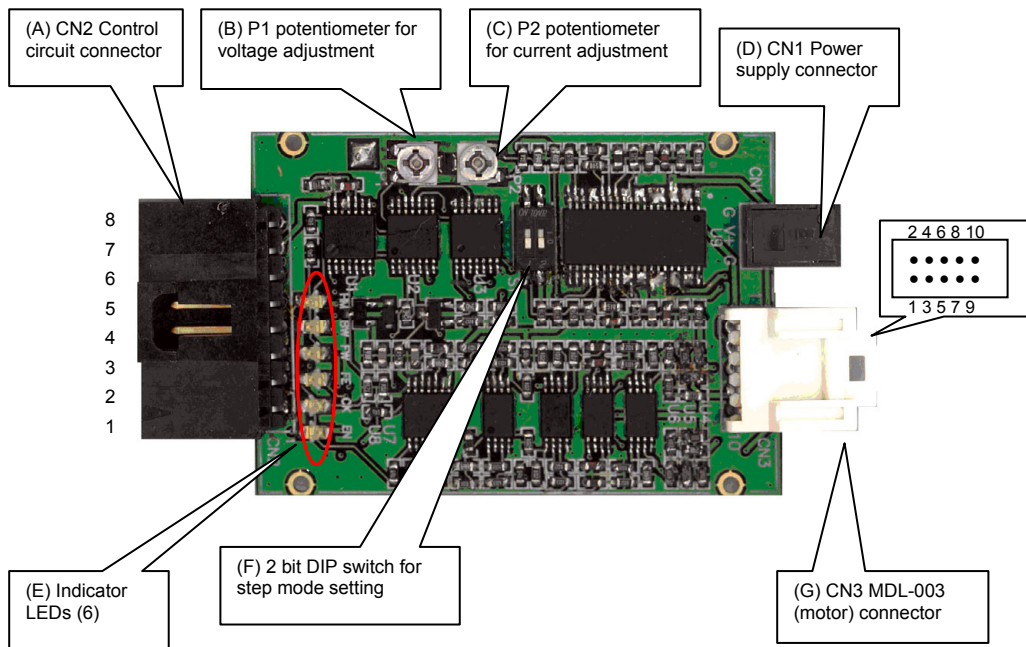

Figure 2 Stepper Motor driver board (top view)
*LEDs numbered from bottom to top in Figure 2.